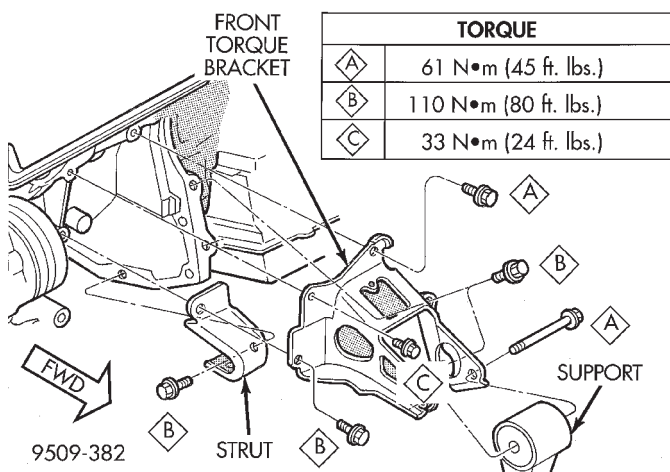

Fig. 27 Engine Mounting—Front 2.5L
(6) Tighten thru bolt at front mount see (Fig. 27) tighten to 61 N·m (45 ft. lbs.).